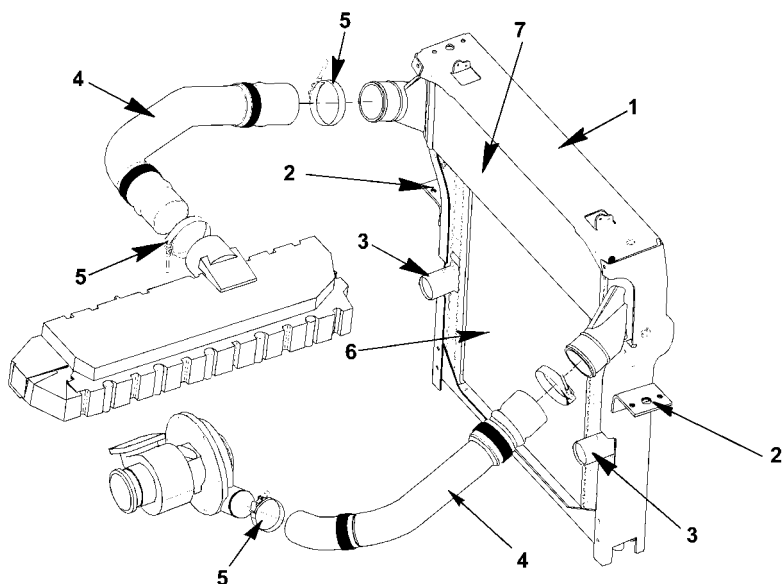

Figure 1 Radiator Assembly And Connections
Charge air cooler pipes and clamps (Items 4 and 5, Figure 1) are located on the upper radiator section.
2. Locate the radiator mounting bracket and mounting bushing on the side frame of the radiator shell on the passenger side (Item 2, Figure 1).